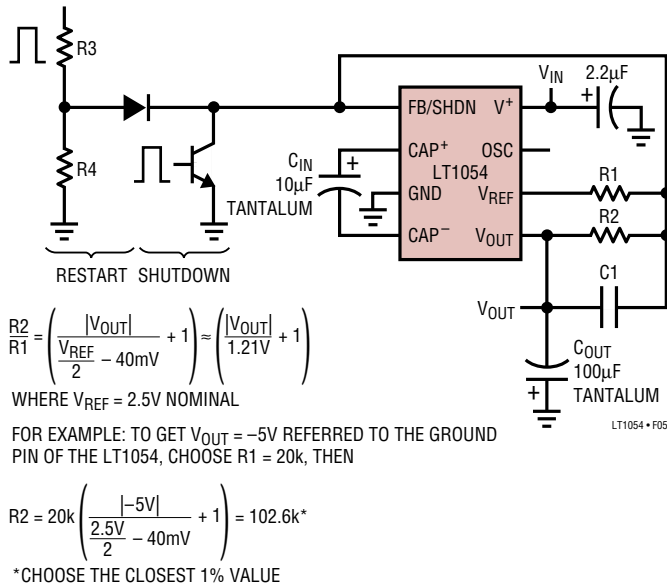

Figure 5
**FB/SHDN (Pin 1):** Feedback/Shutdown Pin. This pin has two functions. Pulling Pin 1 below the shutdown threshold ( $\approx 0.45V$ ) puts the device into shutdown. In shutdown the reference/regulator is turned off and switching stops. The switches are set such that both  $C_{IN}$  and  $C_{OUT}$  are discharged through the output load. Quiescent current in shutdown drops to approximately  $100\mu A$  (see Typical Performance Characteristics). Any open-collector gate can be used to put the LT1054 into shutdown. For normal (unregulated) operation the device will start back up when the external gate is shut off. In LT1054 circuits that use the regulation feature, the external resistor divider can provide enough pull-down to keep the device in shutdown until the output capacitor ( $C_{OUT}$ ) has fully discharged. For most applications where the LT1054 would be run intermittently, this does not present a problem because the discharge time of the output capacitor will be short compared to the off-time of the device. In applications where the device has to start up before the output capacitor ( $C_{OUT}$ ) has fully discharged, a restart pulse must be applied to Pin 1 of the LT1054. Using the circuit of Figure 5, the restart signal can be either a pulse ( $t_p > 100\mu s$ ) or a logic high. Diode coupling the restart signal into Pin 1 will allow the output voltage to come up and regulate without overshoot. The resistor divider  $R3/R4$  in Figure 5 should be chosen to provide a signal level at pin 1 of  $0.7V$  to  $1.1V$ .
The error amplifier of the LT1054 servos the drive to the PNP switch to control the voltage across the input capacitor ( $C_{IN}$ ) which in turn will determine the output voltage. Using the reference and error amplifier of the LT1054, an external resistive divider is all that is needed to set the regulated output voltage. Figure 5 shows the basic regulator configuration and the formula for calculating the appropriate resistor values.  $R_1$  should be chosen to be